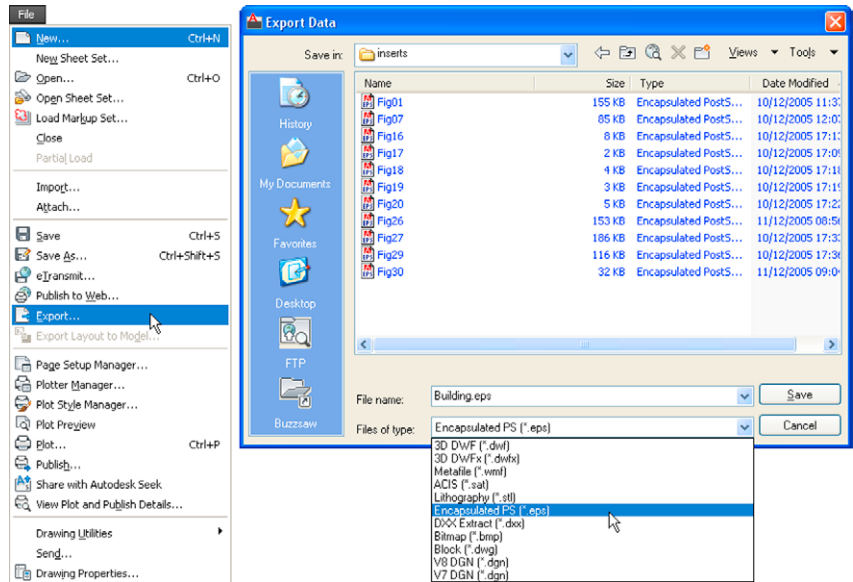

Fig. 10.3 The **Export** tool icon from the **File** drop-down menu and the **Export Data** dialog
First example – Copying and Pasting (Fig. 10.3)
1. With the same drawing on screen *click* on **Export...** in the **File** drop-down menu (Fig. 10.3) or *click* **Export/Other formats** in the menu appearing with a *click* on the **A** icon at the top left-hand corner of the AutoCAD window. The **Export Data** dialog appears (Fig. 10.3). *Pick* **Encapsulated PS (*.eps)** from the **Files of type** popup list then *enter* a suitable file name (e.g. **building.eps**) in the **File name field** and *click* the **Save** button.